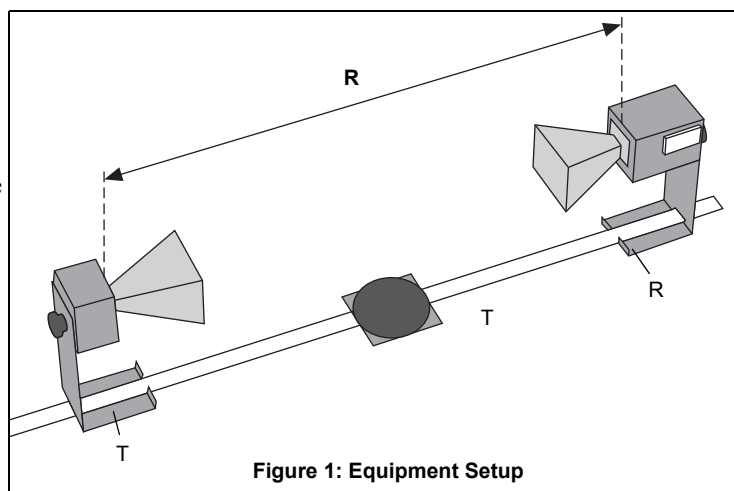

Figure 1: Equipment Setup
1. Arrange the Transmitter and Receiver on the Goniometer as shown in Figure 1 with the Transmitter attached to the fixed arm. Be sure to adjust both Transmitter and Receiver to the same polarity — the horns should have the same orientation, as shown.
3. Adjust the Transmitter and Receiver so the distance between the source diode in the Transmitter and the detector diode in the Receiver (the distance labeled **R** in Figure 1) is 40 cm (see Figure 2 for location of points of transmission and reception). The diodes are at the locations directly above the points marked “T” and “R” on the stands. Adjust the INTENSITY and VARIABLE SENSITIVITY knobs on the Receiver so that the meter reads 1.0 (full scale).